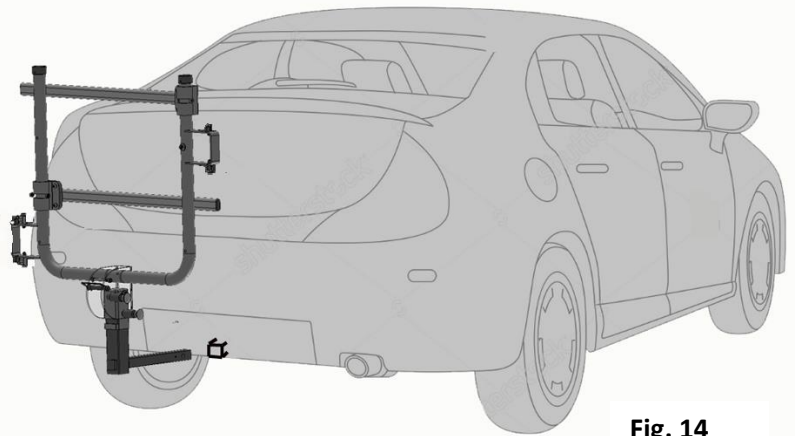
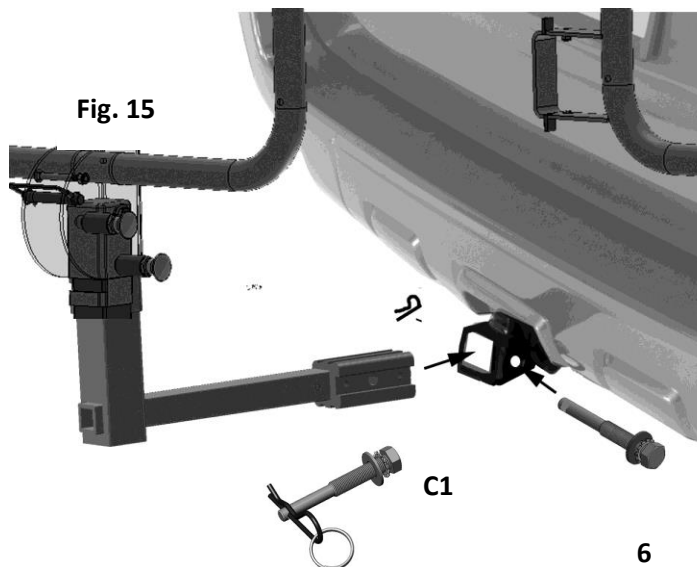

Fig. 14
Fig. 15
**Step 3A: For model HR3000 (1  $\frac{1}{4}$ "-2" threaded hitch pin version, locking hitch pin NOT included): Install Hitch Tube (c) into vehicle's trailer hitch** Per Fig. 15, 16 & 17: With the rack "folded flat" against the rear of the vehicle per Fig 14, insert the receiver tube into the hitch and align the holes. Thread and tighten the bolt securely through the hitch and receiver tube using a wrench (adjustable,  $\frac{3}{4}$ " or 19mm) then insert the hitch pin clip. The rack should now be solidly mounted to your hitch.